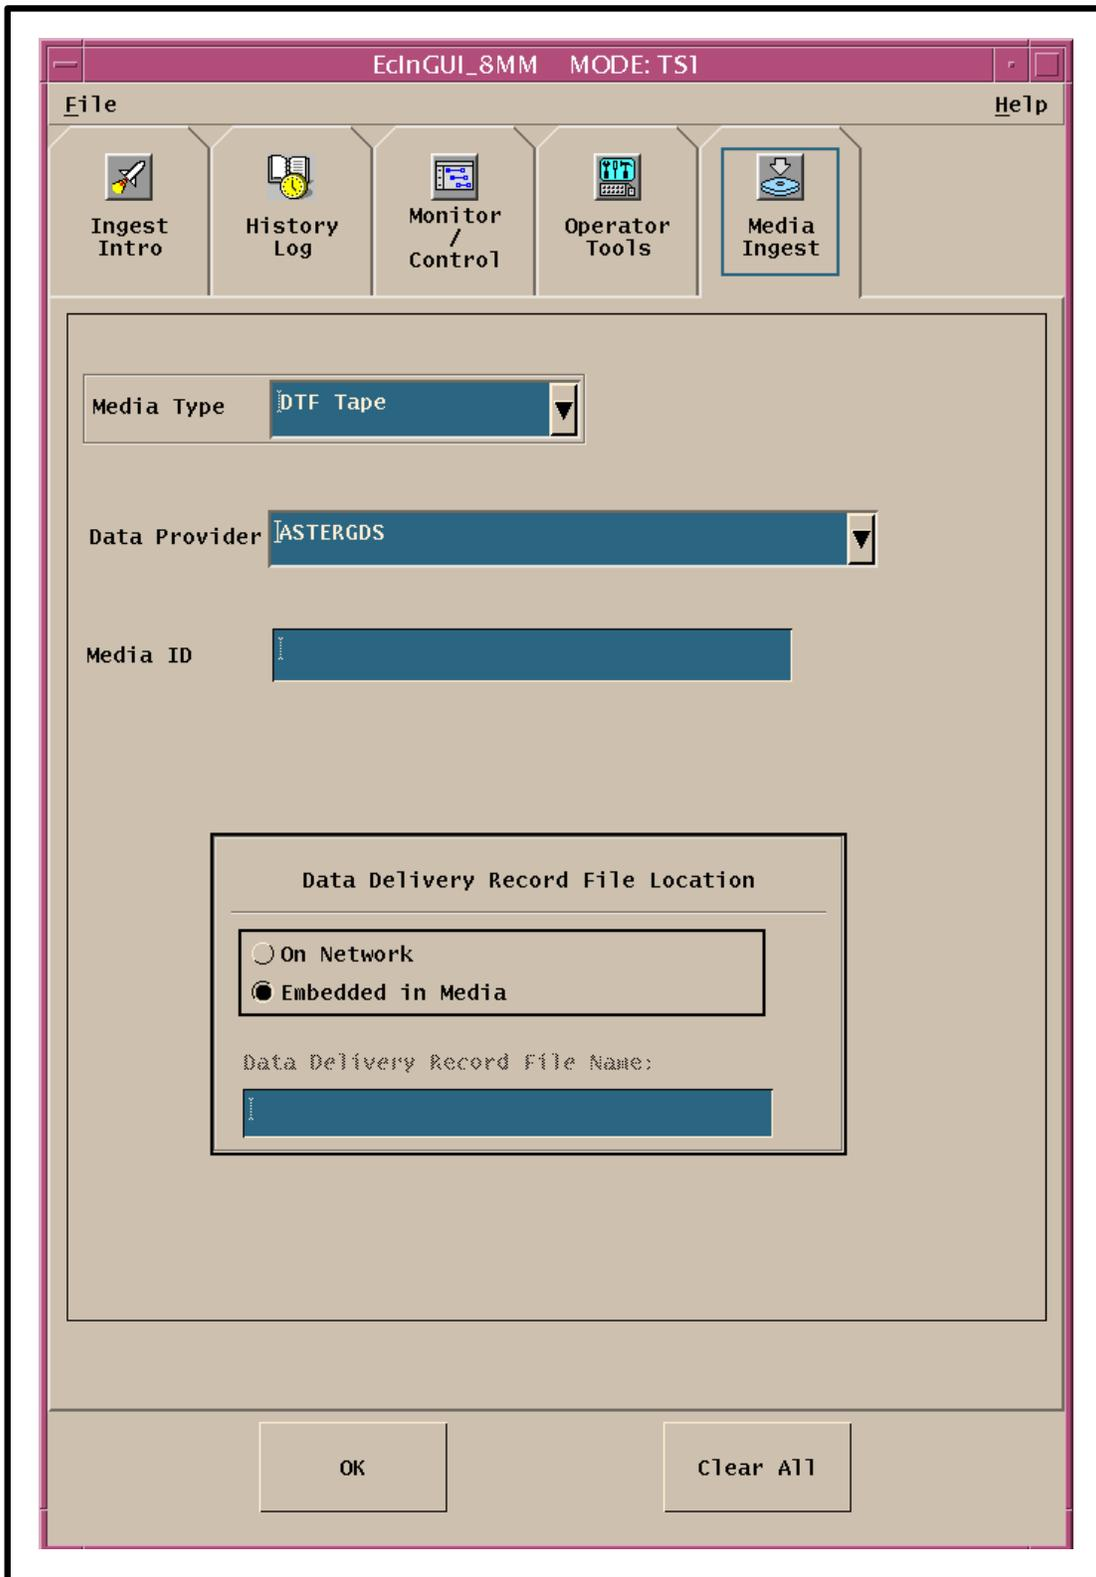

Figure 20. Media Ingest Screen
- The **Media Ingest** screen (Figure 20) is displayed.